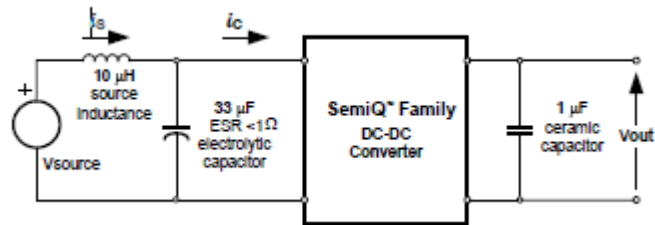

**Fig. 3.3V.14:** Test Setup for measuring input reflected ripple currents,  $i_c$  and  $i_s$
**Fig. 3.3V.1:** Available load current vs. ambient air temperature and airflow rates for SQ48T15033 converter with D height pins mounted vertically with Vin = 48V, air flowing from pin 3 to pin 1, and maximum FET temperature ≤ 120°C.
**Fig. 3.3V.3:** Available load current vs. ambient air temperature and airflow rates for SQ48S15033 converter mounted vertically with Vin = 48V, air flowing from pin 3 to pin 1, and maximum FET temperature ≤ 120°C.
**Fig. 3.3V.1:** Available load current vs. ambient air temperature and airflow rates for SQ48T15033 converter with D height pins mounted horizontally with Vin = 48V, air flowing from pin 3 to pin 1, and maximum FET temperature ≤ 120°C.
**Fig. 3.3V.4:** Available load current vs. ambient air temperature and airflow rates for SQ48S15033 converter mounted horizontally with Vin = 48V, air flowing from pin 3 to pin 1, and maximum FET temperature ≤ 120°C.
**Fig. 3.3V.5:** Efficiency vs. load current and input voltage for SQ48T/S15033 converter mounted vertically with air flowing from pin 3 to pin 1 at a rate of 300 LFM (1.5m/s) and  $T_a = 25^\circ\text{C}$ .
**Fig. 3.3V.6:** Efficiency vs. load current and ambient temperature for SQ48T/S15033 converter mounted vertically with  $V_{in} = 48\text{V}$  and air flowing from pin 3 to pin 1 at a rate of 200 LFM (1.0m/s).
**Fig. 3.3V.7:** Power dissipation vs. load current and input voltage for SQ48T/S15033 converter mounted vertically with air flowing from pin 3 to pin 1 at a rate of 300 LFM (1.5 m/s) and  $T_a = 25^\circ\text{C}$ .
**Fig. 3.3V.8:** Power dissipation vs. load current and ambient temperature for SQ48T/S15033 converter mounted vertically with  $V_{in} = 48\text{V}$  and air flowing from pin 3 to pin 1 at a rate of 200 LFM (1.0 m/s).
**Fig. 3.3V.9:** Turn-on transient at full rated load current (resistive) with no output capacitor at  $V_{in} = 48$  V, triggered via ON/OFF pin. Top trace: ON/OFF signal (5 V/div.). Bottom trace: output voltage (1 V/div.). Time scale: 2 ms/div.
**Fig. 3.3V.10:** Turn-on transient at full rated load current (resistive) plus 10,000  $\mu$ F at  $V_{in} = 48$  V, triggered via ON/OFF pin. Top trace: ON/OFF signal (5 V/div.). Bottom trace: output voltage (1 V/div.). Time scale: 2 ms/div.
**Fig. 3.3V.11:** Output voltage response to load current step-change (3.75 A – 7.5 A – 3.75 A) at  $V_{in} = 48$  V. Top trace: output voltage (100 mV/div.). Bottom trace: load current (5 A/div.). Current slew rate: 0.1 A/ $\mu$ s.  $C_o = 1$   $\mu$ F ceramic. Time scale: 0.2 ms/div.
**Fig. 3.3V.12:** Output voltage response to load current step-change (3.75 A – 7.5 A – 3.75 A) at  $V_{in} = 48$  V. Top trace: output voltage (100 mV/div.). Bottom trace: load current (5 A/div.). Current slew rate: 5 A/ $\mu$ s.  $C_o = 450$   $\mu$ F tantalum + 1  $\mu$ F ceramic. Time scale: 0.2 ms/div.
**Fig. 3.3V.13:** Output voltage ripple (20 mV/div.) at full rated load current into a resistive load with  $C_o = 10\ \mu\text{F}$  tantalum +  $1\ \mu\text{F}$  ceramic and  $V_{in} = 48\ \text{V}$ . Time scale:  $1\ \mu\text{s}/\text{div}$ .
**Fig. 3.3V.15:** Input reflected ripple current,  $i_c$  (100 mA/div.), measured at input terminals at full rated load current and  $V_{in} = 48\ \text{V}$ . Refer to Fig. 3.3V.14 for test setup. Time scale:  $1\ \mu\text{s}/\text{div}$ .
**Fig. 3.3V.16:** Input reflected ripple current,  $i_s$  (10 mA/div.), measured through  $10\ \mu\text{H}$  at the source at full rated load current and  $V_{in} = 48\ \text{V}$ . Refer to Fig. 3.3V.14 for test setup. Time scale:  $1\ \mu\text{s}/\text{div}$ .
**Fig. 3.3V.17:** Output voltage vs. load current showing current limit point and converter shutdown point. Input voltage has almost no effect on current limit characteristic.
**Fig. 3.3V.18:** Load current (top trace, 20 A/div., 20 ms/div.) into a 10 mΩ short circuit during restart, at Vin = 48 V. Bottom trace (20 A/div., 1 ms/div.) is an expansion of the on-time portion of the top trace.